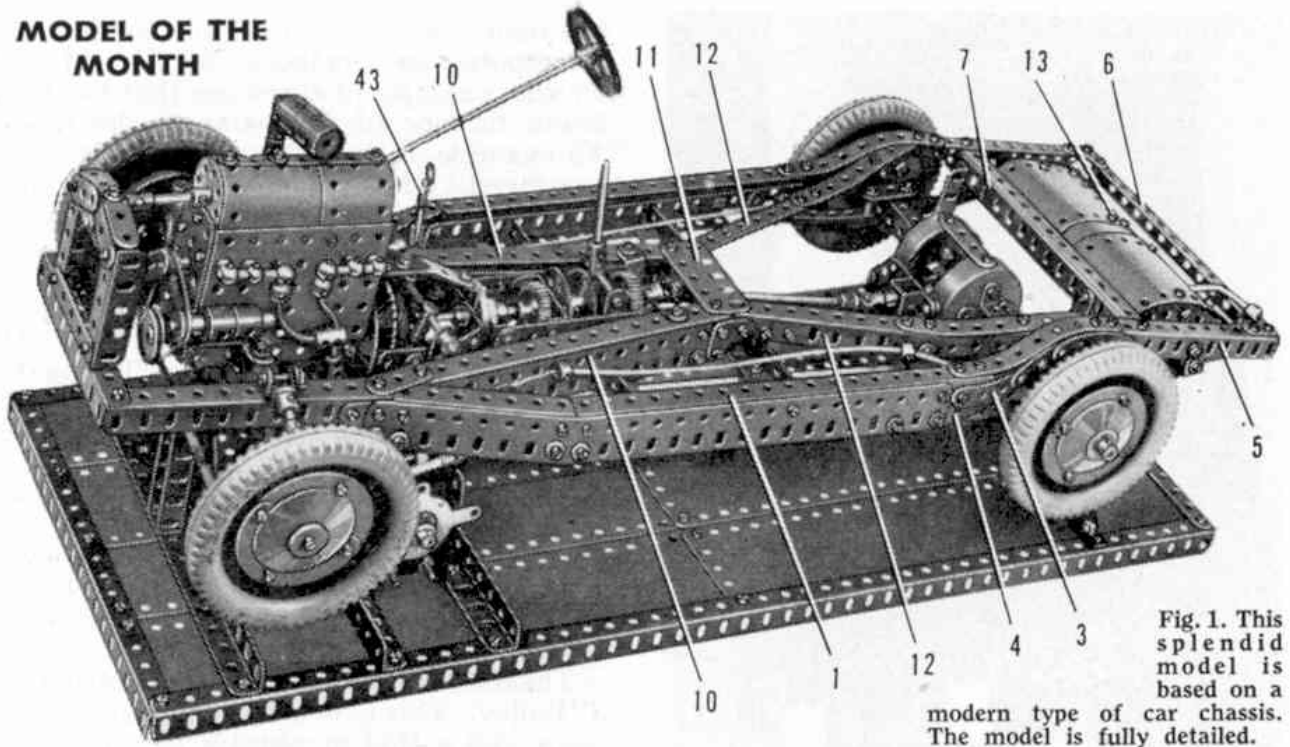

Fig. 1. This splendid model is based on a modern type of car chassis. The model is fully detailed.
Each side of the engine unit is a $3\frac{1}{2}$ " x $2\frac{1}{2}$ " Flanged Plate and the ends are 3" x $1\frac{1}{2}$ " Flat Plates. On each side a $3\frac{1}{2}$ " Strip is attached to Angle Brackets fixed to the lower corners of the Flat Plates. A Bush Wheel is bolted to the front of the unit and a Wheel Disc to the rear. Two $2\frac{1}{2}$ " x $2\frac{1}{2}$ " and two $2\frac{1}{2}$ " x $1\frac{1}{2}$ " Flexible Plates form the top of the engine and they are curved to the same radius as the Bush Wheel and the Wheel Disc. The general arrangement of the exhaust manifold can be seen in Fig. 1. The
The radiator is formed by three $2\frac{1}{2}$ " Angle Girders, two $2\frac{1}{2}$ " Strips and two $1\frac{1}{2}$ " Strips arranged as shown in Fig. 1. The water tubes are represented by Tension Springs passed over 2" Screwed Rods supported in Angle Brackets.
The base is assembled from $24\frac{1}{2}$ " and $9\frac{1}{2}$ " Angle Girders arranged as shown in Fig. 1 and filled in by eight $12\frac{1}{2}$ " x $2\frac{1}{2}$ " Strip Plates. An E2OR(S) Electric Motor is bolted to two of the $9\frac{1}{2}$ " Angle Girders, and a $\frac{7}{16}$ " Pinion on its armature shaft engages a 60-tooth Gear on a Rod mounted in the side-plates. A $\frac{7}{16}$ " Pinion on the same Rod as the Gear drives another 60-tooth Gear on a Rod supported in the upper corner holes of the side-plates. This Rod carries a $\frac{3}{4}$ " Sprocket, and when the chassis is in position on the base the Sprocket is connected by Chain to the Sprocket 28 of the engine unit.